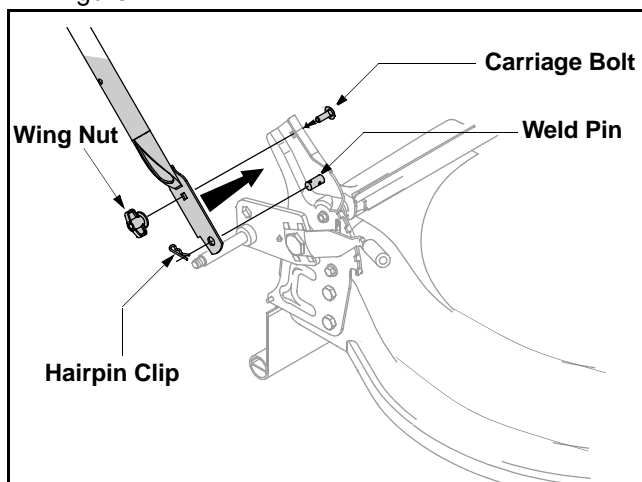

Figure 4
- Remove hairpin clip from the outer hole of the weld pin on each handle brackets. Using a pair of pliers, squeeze one leg of the lower handle against the handle bracket. Insert the hairpin clip into the inner hole on the weld pin. Repeat on the other side. See Figure 4.
- After moving the hairpin clip, insert the carriage bolt, from the hardware pack, in the upper hole on the handle mounting bracket and secure with plastic wing nut from the hardware pack. See Figure 4. Repeat on the other side.